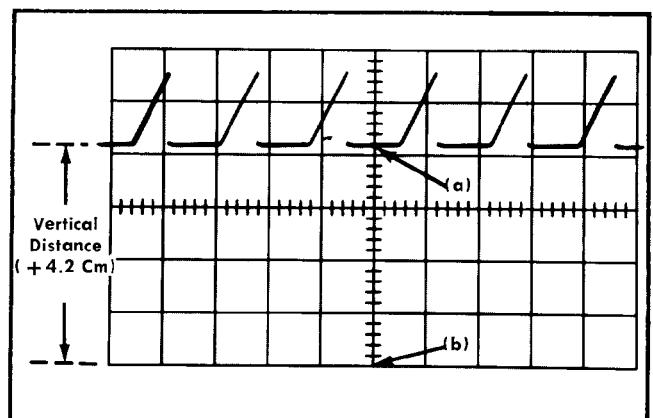

Fig. 3-2. Measuring instantaneous voltage with respect to some reference.
3. Set the Channel 1 AC-DC-GND switch to GND and position the trace (with the Channel 1 POSITION control) to one of the horizontal graticule lines such as point (b) in Fig. 3-2. This line will be used as a ground (or zero) reference line. In any case, the reference line chosen will depend upon the polarity and DC level of the signal to be measured. Do not move the Channel 1 POSITION control after the reference line has been established.
7. Measure the vertical distance in centimeters from the ground (zero) reference line established in step 3 to the point on the waveform that you wish to measure, such as between (a) and (b) in Fig. 3-2. If the PULL TO INVERT switch is pushed in and the point on the waveform is above the reference line, the polarity is indicated to be positive (+). If the point is below the line, the polarity is negative (—). If the PULL TO INVERT switch is pulled out, the indicated polarities will be reversed.
8. Multiply the measured distance by the setting of the VOLTS/CM switch and the attenuator factor, if any, of the probe. This is the instantaneous DC level of the point measured. For example, assume the vertical deflection is 4.2 cm above the reference line (see Fig. 3-2) using a $10\times$ attenuator probe with the PULL TO INVERT switch pushed in and the VOLTS/CM switch set to 2. Substitute these values in the following formula: